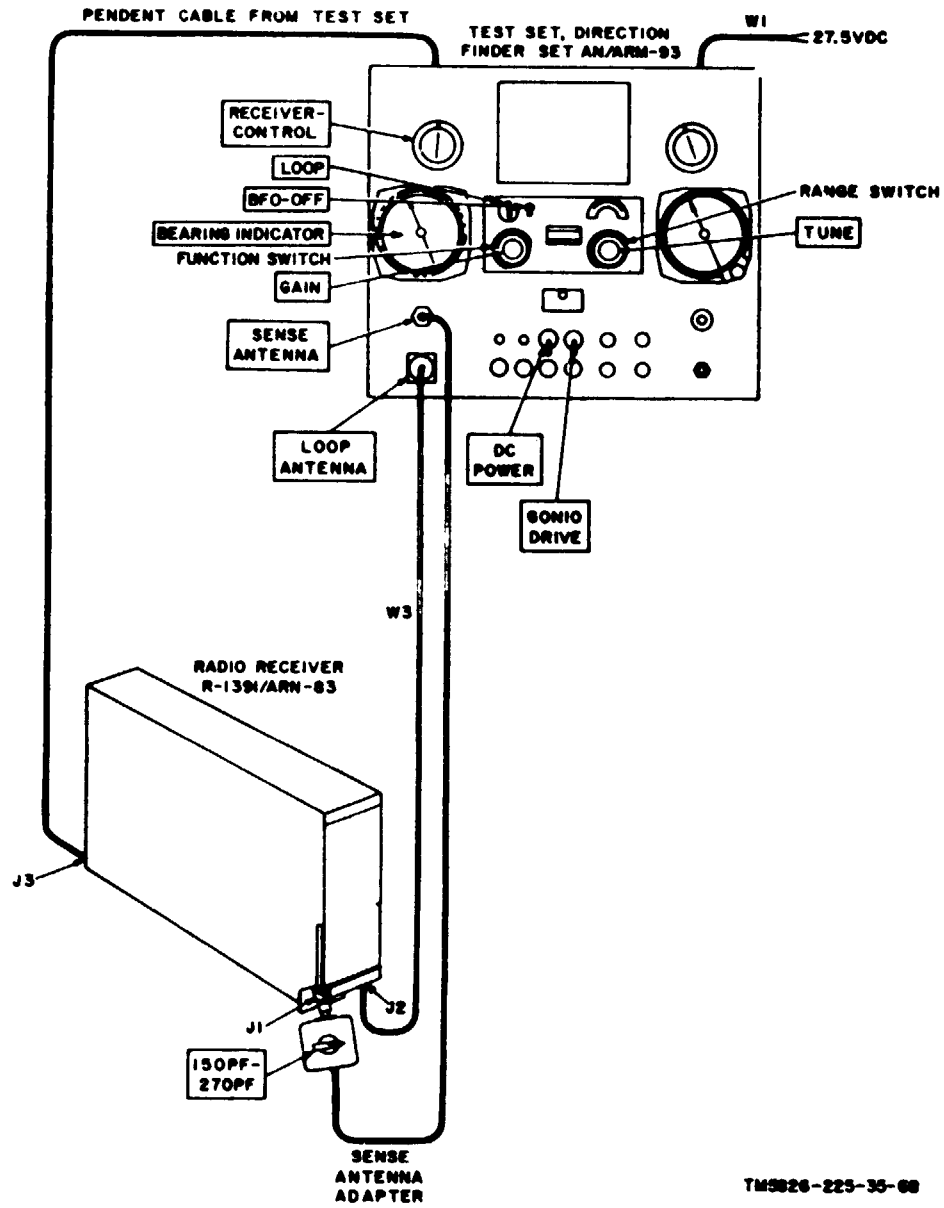

Figure 4-5. Receiver bearing indicator test.
- (1) Test Set, Direction Finder Set AN/ARM-93.
- (2) Stopwatch.
b. Test Connections and Conditions. Connect the test equipment as shown in figure 4-5.